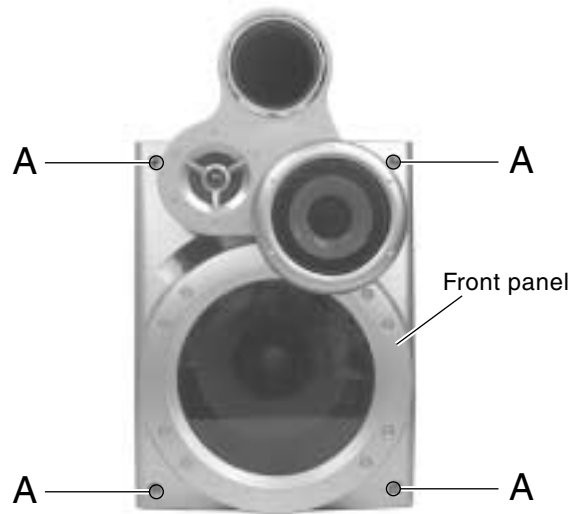

Fig.1
■ Removing the front panel (See Fig.1 and 2)